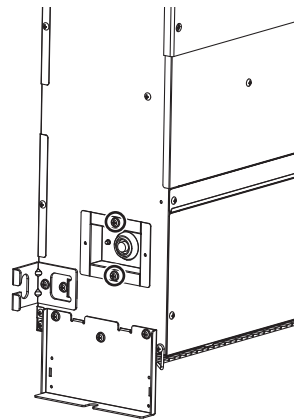

Fig.16
- (2) Remove the two bearing retainer screws to remove the bearing. (Fig. 16)